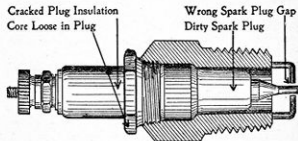

Figure 97.—Spark Plug Troubles.
6. Ignition trouble. Figures 97 to 99.